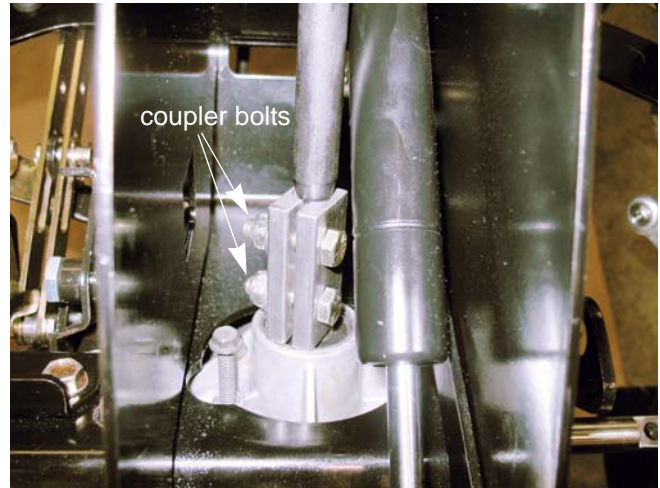

Figure 6.23
8. Lift the steering gearbox into the frame while sliding the gearbox input shaft into the steering shaft coupler. See Figure 6.23.